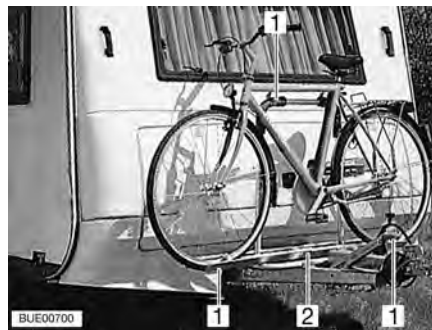

Fig. 10 Front bike rack
- Put the bikes on to the bike rack (Fig. 10,2) and secure them with quick straps (Fig. 10,1).